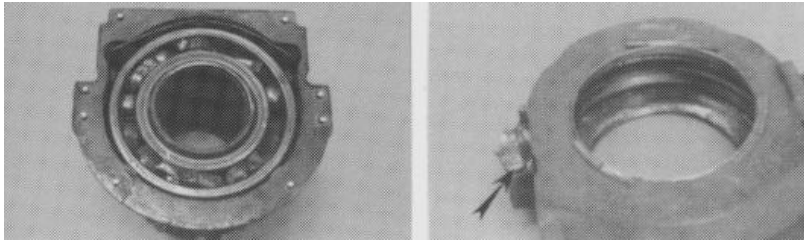

**Figure 33 Damaged Facings**
10. Facings separate from the driven disc and the pressure plate, center plate and flywheel show severe damage caused by excessive slippage (Figure 33).